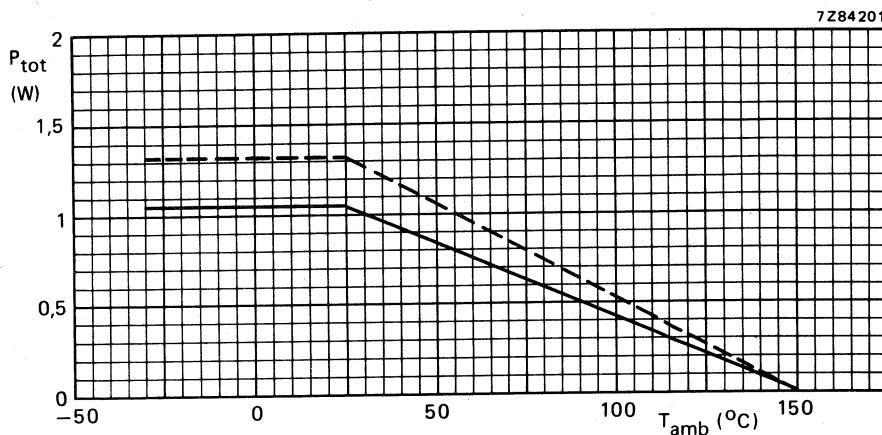

Fig. 2 Power derating curves; —— SOT-38; --- SO-16, SOT-109A
* Based on nominal application, Fig. 3; for deviating periphery see power derating curve Fig. 2.